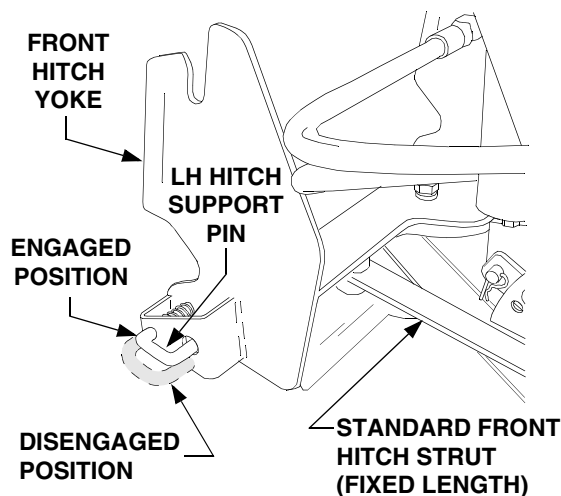

Figure 8
If the Hydraulic Angling Kit (190-288-100) is installed on the front hitch, accidental actuation of the angling system could result in damage to the snow thrower and/or tractor. Whenever the snow thrower is installed, it is recommended that the angling cylinder be removed and replaced by either the standard front hitch strut (See Figure 8) or the manual angling kit (190-171), set in the center position. The following step 1 applies *ONLY* to units equipped with the hydraulic angling kit.
4. Make certain the support pins at the bottom of the front hitch yoke are in the engaged position (through holes in yoke). See Figure 8.
3. Pull the hitch support pins outward and rotate to lock in the disengaged position. Refer to Figure 8.